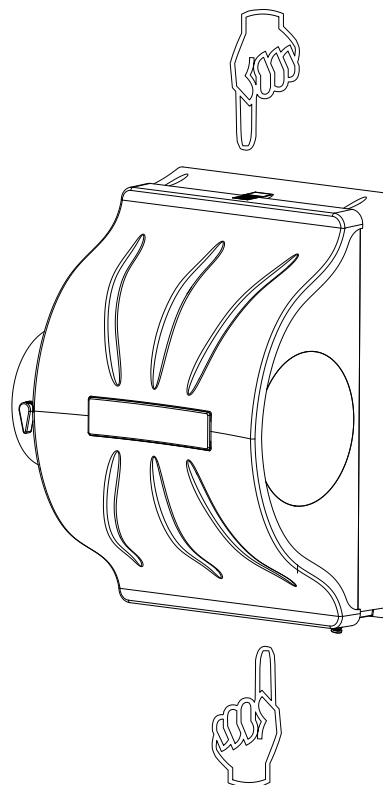

Figure 11
4. To remove the humidifier cover, press the release pads as shown in Figure 11 and pull the cover toward you.